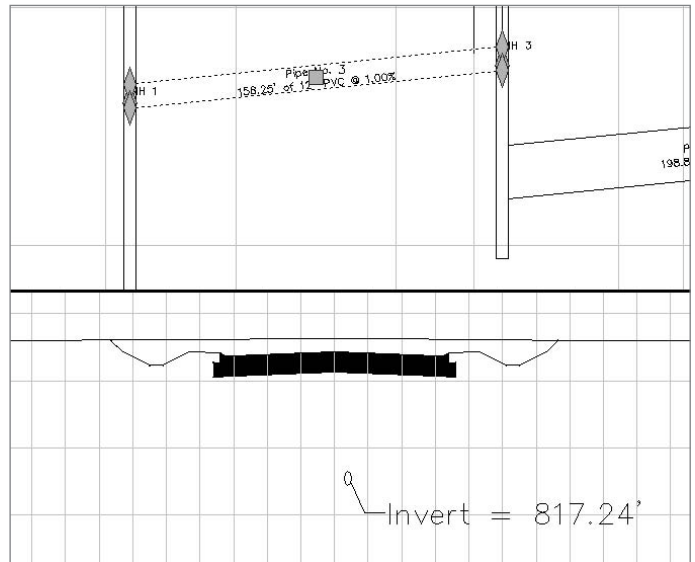

Figure 11.20
11. Select the pipe so that grips appear. Use the square grip at the center of the pipe to move it up approximately 3', as shown in Figure 11.20. Note that the pipe shown in the section view moves to reflect the change in profile.